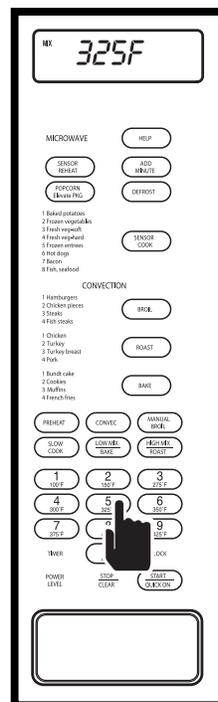

Figure 3-92.
4. Enter desired cooking time. Press the number 2 key, number 6 key, and number 0 key twice, "25.00 - PRESS - START" will flash on display. (See Figure 3-92)